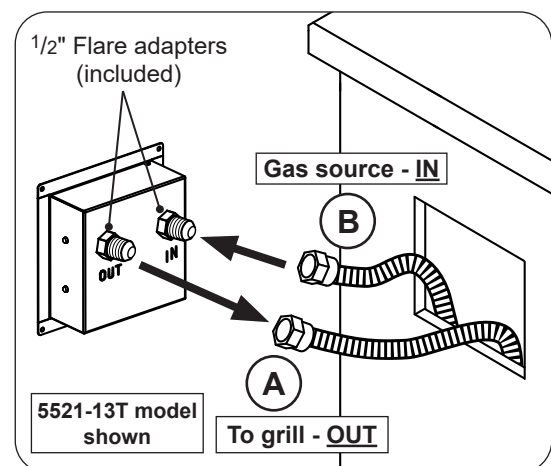

Fig. 2-4 Install timer box
2. Using two wrenches, connect the flex connector coming from the appliance to the 1/2" **flare adapter labeled OUT**. See Fig. 2-4, A. Ensure the connection is tightened securely.
3. Using two wrenches, connect a flex connector (not included) to the 1/2" **flare adapter labeled IN**. See Fig. 2-4, B. Ensure the connection is tightened securely.